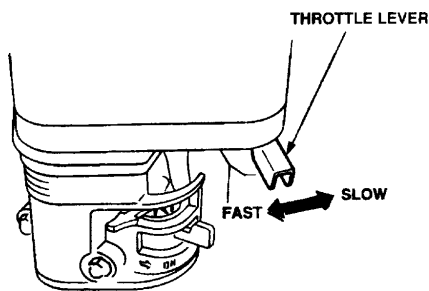

Figure 15. Throttle Lever (Run Position)
1. Move the throttle lever to the **IDLE** or **SLOW** position (Figure 15) and run the engine for three minutes at low speed.
1. Move the throttle lever to the **IDLE** or **SLOW** position (Item C, Figure 15) and run the engine for three minutes at low speed.